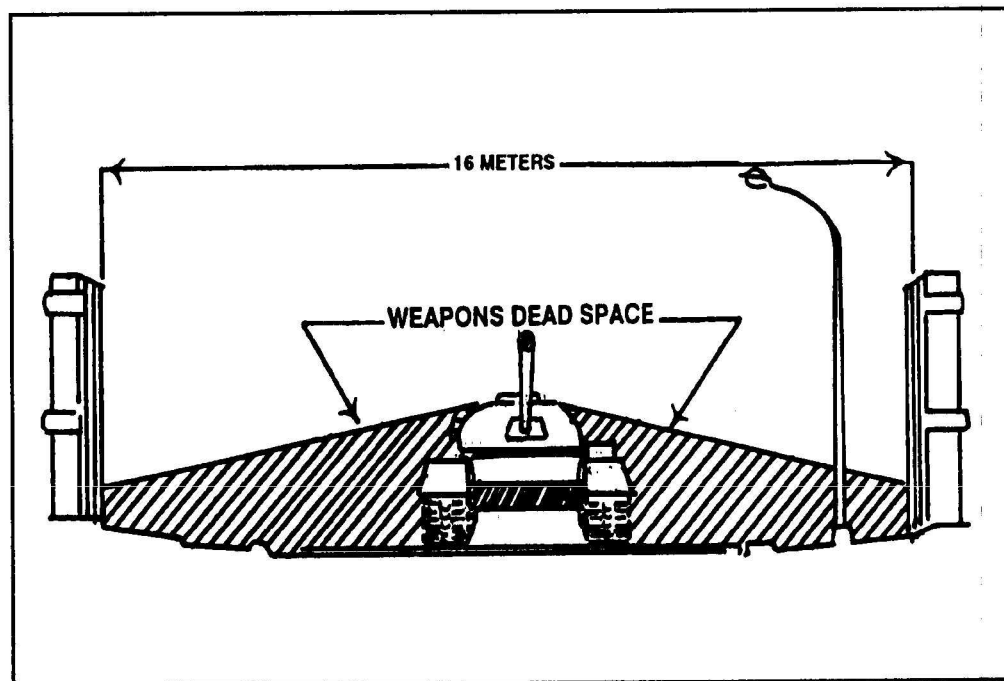
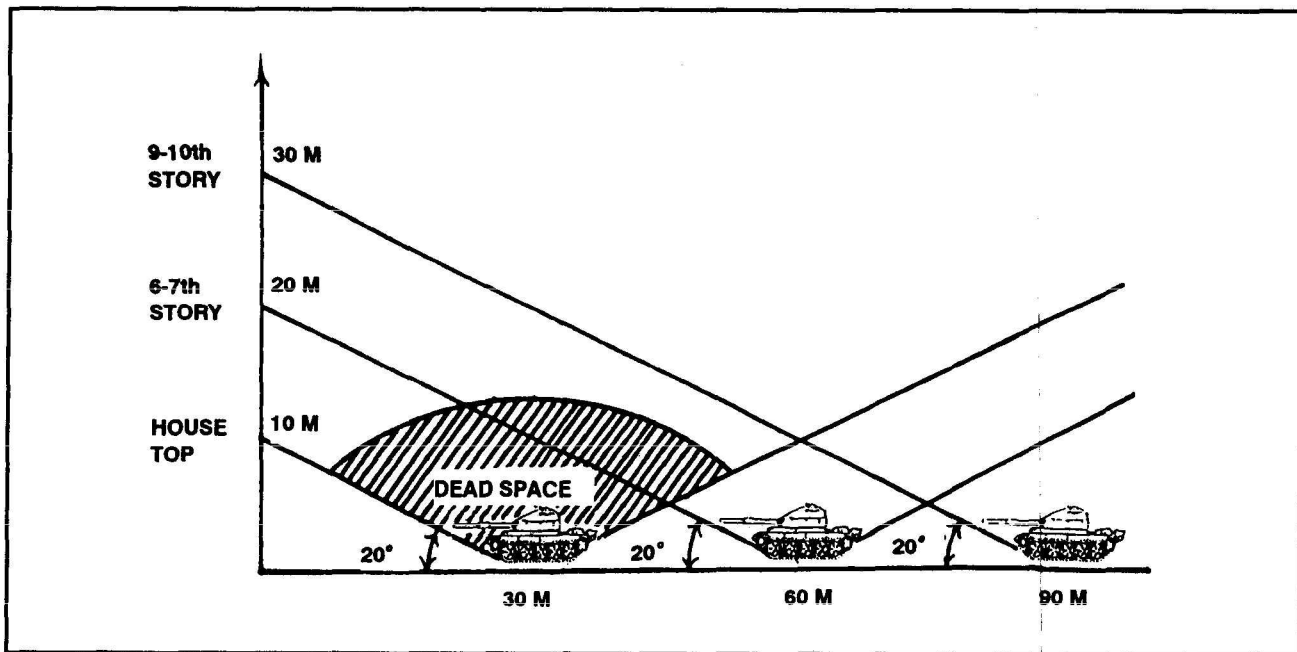

Figure 8-17. Tank cannon dead space at street level.
Figure 8-18. Tank cannon dead space above street level.
(1) The cannon of the M1 and M1A1 tank can be elevated +20 degrees or depressed -10 degrees. The M60 and M48-series tanks have upper limits of +19 degrees and lower limits of -10 degrees. The lower depression limit creates a 35-foot (10.8-meter) dead space around a tank. On a 16-meter-wide street (common in Europe) this dead space extends to the buildings on each side (see Figure 8-17). Similarly, there is a zone overhead in which the tank cannot fire (see Figure 8-18, page 8-36). This dead space offers ideal locations for short-range antiarmor weapons and allows hidden enemy gunners to fire at the tank when the tank cannot fire back. It also exposes the tank's most vulnerable areas: the flanks, rear, and top. Infantrymen must move ahead, alongside, and to the rear of tanks to provide close protection. The extreme heat produced immediately to the rear of the M1-series tanks prevents dismounted infantry from following closely, but protection from small-arms fire and fragments is still provided by the tank's bulk and armor. The M1-series tanks also have a blind spot caused by the 0-degree of depression available over part of the back deck. To engage any target in this area, the tank must pivot to convert the rear target to a flank-target.